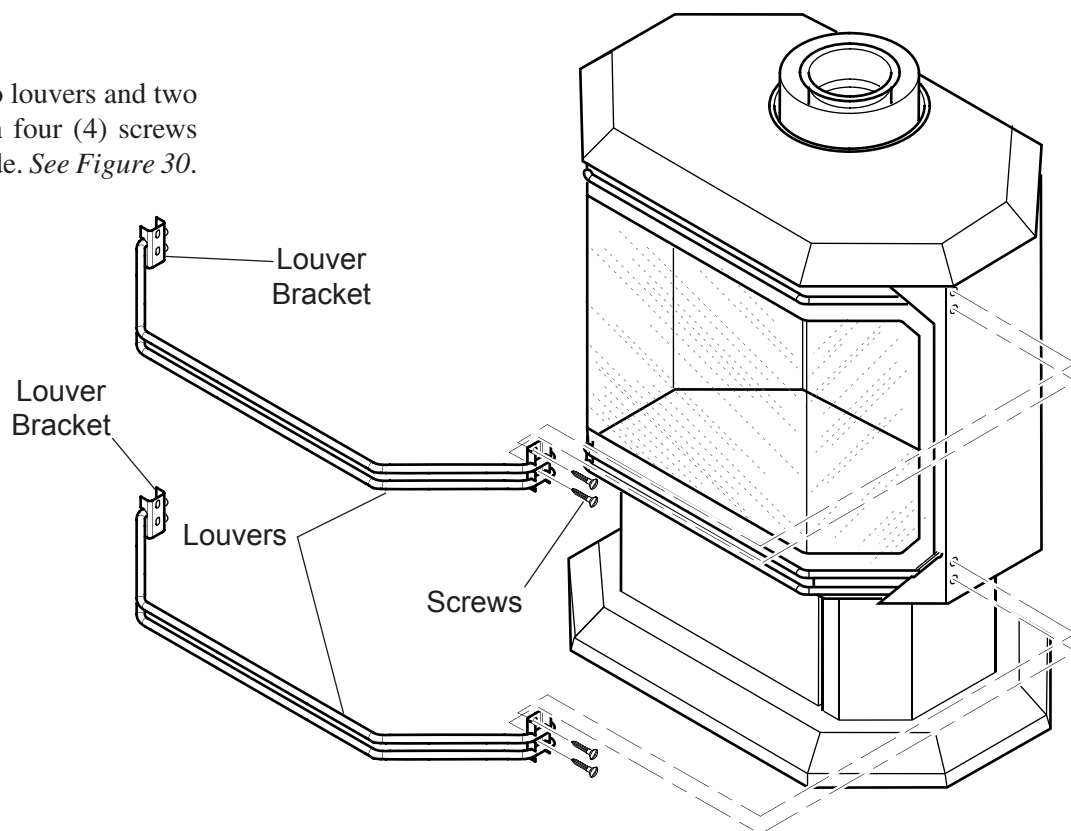

Figure 30 - Installing Louvers
Attach the top louver unit (two louvers and two louver brackets) to stove with four (4) screws provided — two (2) on each side. See Figure 30. Repeat for bottom louver unit.